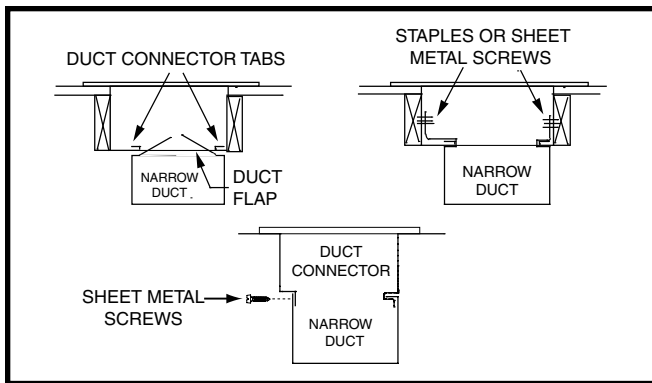

Figure 8. Narrow Ducts
- Bend the tabs on the bottom of the duct connector upwards and as tight as possible against the supply air duct. See Figure 8 (page 8).